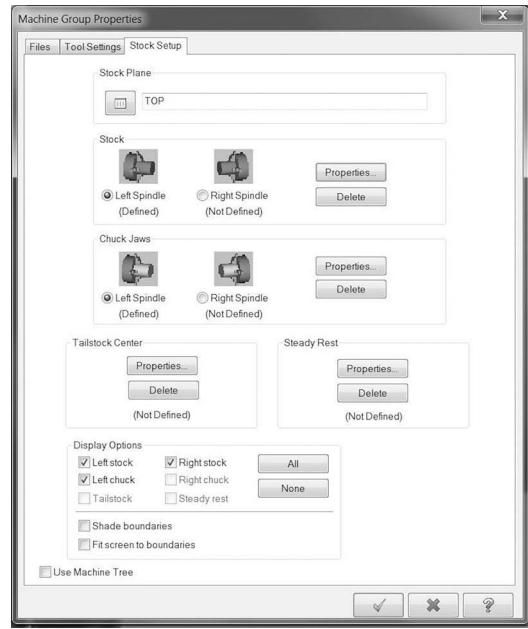
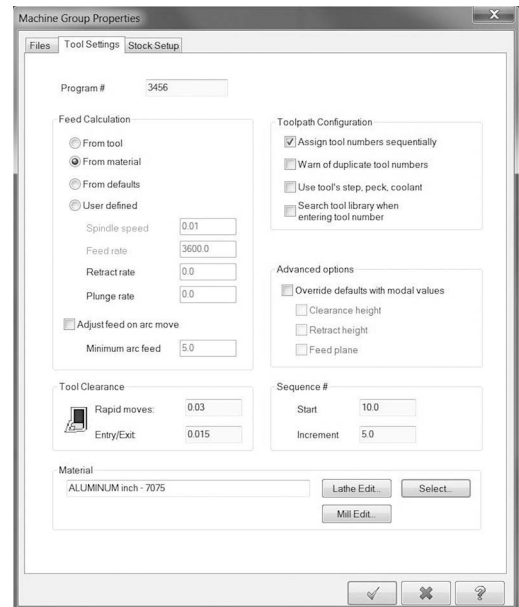

Figure 5-59 Machine Component
Figure 5-60 Machine Group Properties:
4. In the Operations Manager, expand the Properties Mill-Default to expose Stock setup and left-click to open it. Complete the required information per the blank stock dimensions, as in Figure 5-58 and Figure 5-59.
- For the OD: (X), press the Select ... button to select directly from the model or enter the value, if known.
- Open the Tool Settings tab and complete the dialog per Figure 5-60.